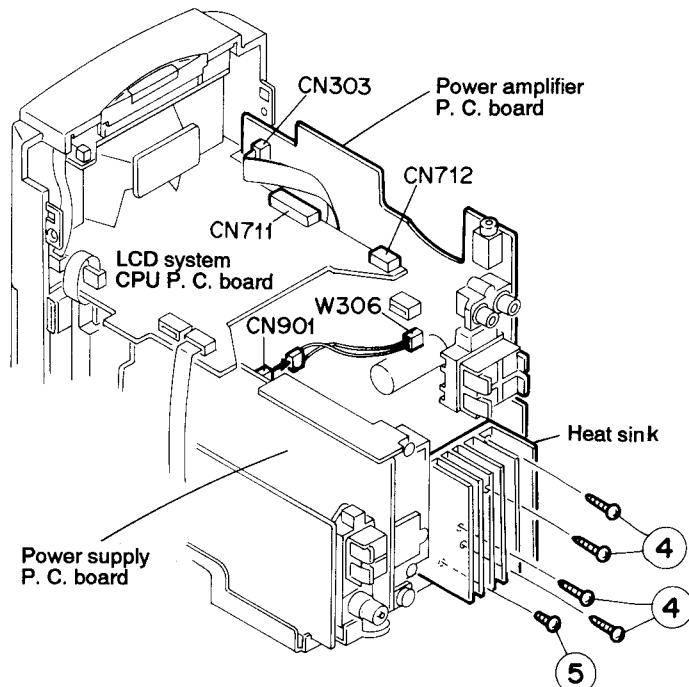

Fig. 5-9
(See Figs. 5-9 and 5-10)
4. Remove the five screws ④ and ⑤ retaining the heat sink (See Fig. 5-9).
5. From the connector CN303 on the power amplifier P. C. board, disconnect the card wire outgoing from the connector CN34 on the head amplifier & mechanism control P. C. board (See Fig. 5-9).
6. From the connector CN901 on the power supply board, disconnect the connector wire outgoing from the connector W306 on the power amplifier P. C. board (See Fig. 5-9).
8. Remove the power amplifier P. C. board from the two connectors CN711 and CN712 on the LCD system CPU P. C. board (See Fig. 5-9).